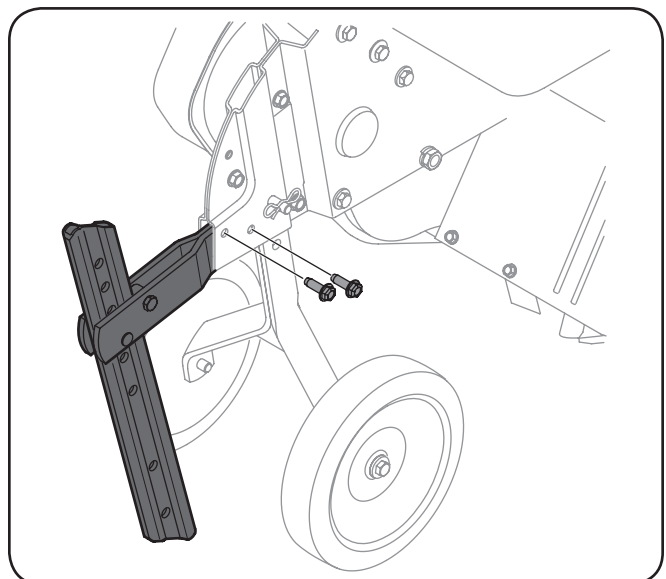

Figure 3-3
2. Remove the two screws from the bracket in the chain case. See Figure 3-3.
3. Insert the horizontal bracket into the chain case brackets and secure the depth stake assembly in place with the screws just removed in step 1. See Figure 3-3.